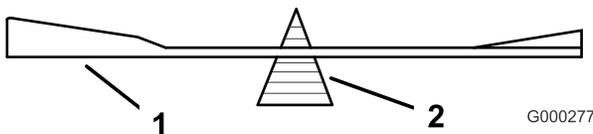
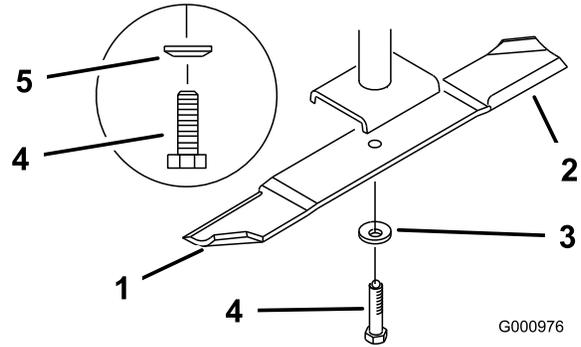

Figure 80
Figure 81
2. Remove the blade bolt, spring disk and blade from the spindle shaft (Figure 81).
2. Check the balance of the blade by putting it on a blade balancer (Figure 80). If the blade stays in a horizontal position, the blade is balanced and can be used. If the blade is not balanced, file some metal off the end of the sail area only (Figure 81). Repeat this procedure until the blade is balanced.
1. Install the blade onto the spindle shaft (Figure 81).
2. Install the spring disk and blade bolt. The spring disk cone must be installed toward the bolt head (Figure 81). Torque the blade bolt to 85-110 ft-lb (115-150 N•m).